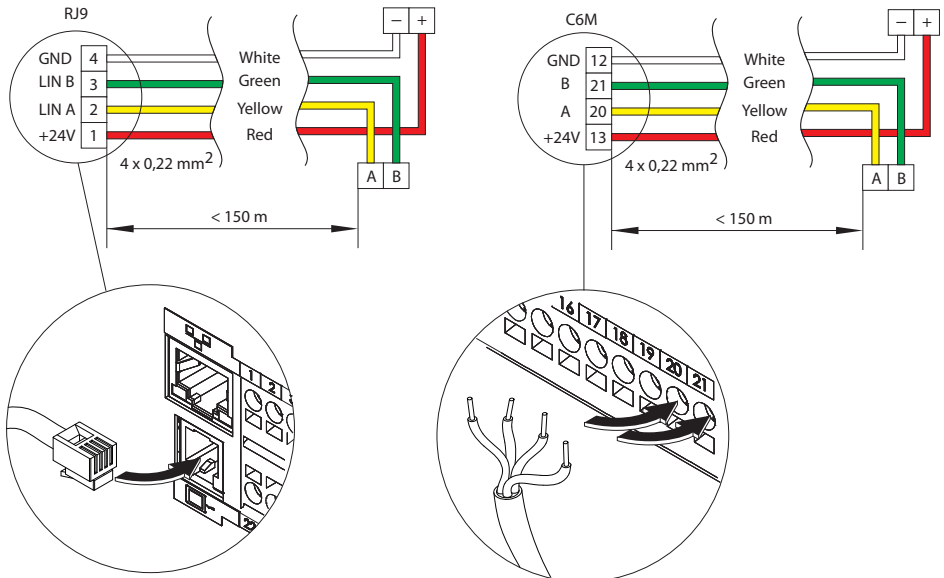

Fig. 17. Control panel cable wiring diagram
- **DX (15–16)** – control signal for external direct expansion (DX) cooler/heater.
- Control panel (see. Fig. 17)